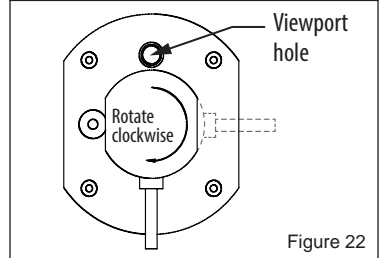

Figure 22
6. Position the ballast assembly power cord 90 degrees to the viewport hole on the mounting base and press the ballast against the mounting base. Rotate the ballast assembly clockwise until it stops and is locked in place (Figure 22).